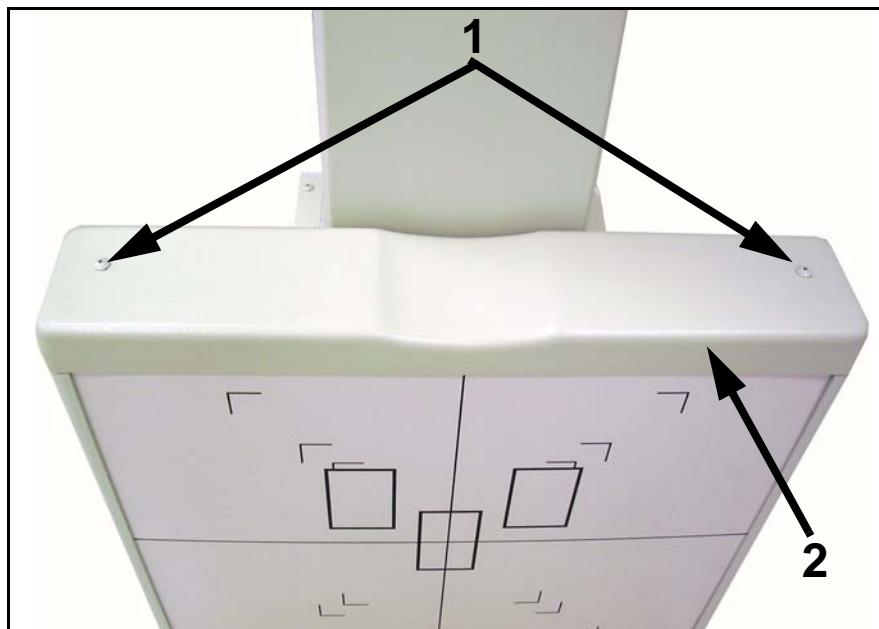

Figure 6-14. Top Cover Screws
- 1 Unscrew two top cover screws (1 in Figure 6-14) and remove top cover (2).